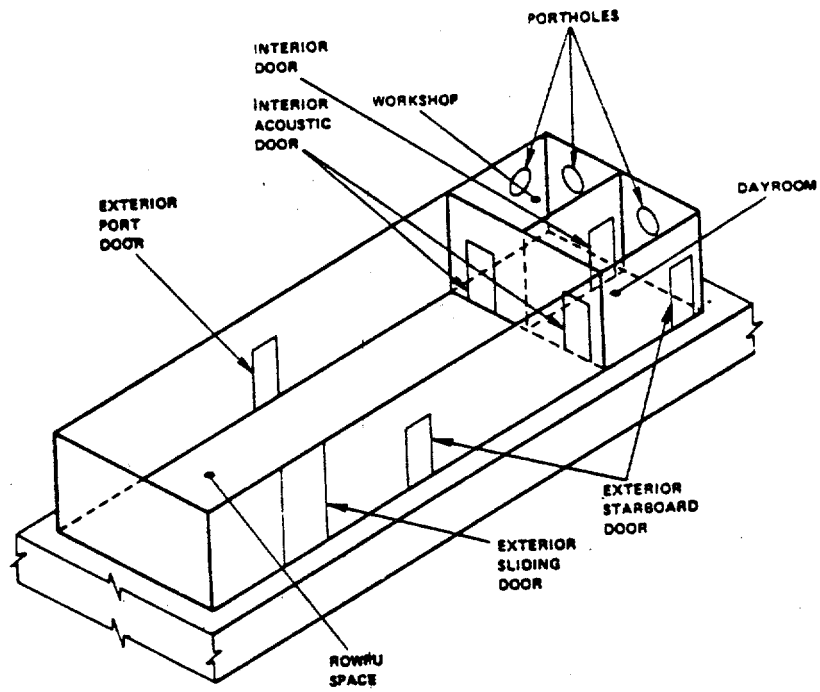

Figure 15-3. Accesses System
**15-3.3 Accesses system.** This system includes deckhouse doors and portholes, accesses to voids, and doors behind voids. Accesses to the weatherdeck allow crew and equipment to enter and leave areas of the barge and give protection against adverse weather and sea conditions. See Figure 15-3 for layout of this system.